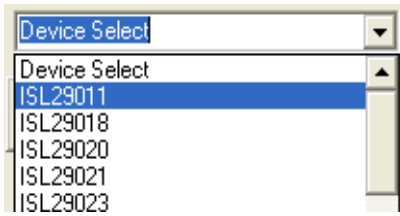

FIGURE 15.
- Go to “Device Select” tab and select the device you have connected to your computer; for this example we will use “ISL29011”, as shown in Figure 15.